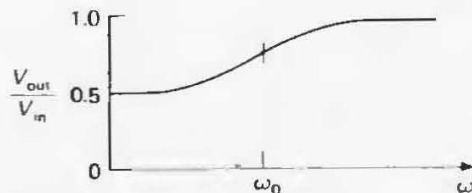

Figure 1.108
(5) How would you make a filter with  $R$ s and  $C$ s to give the response shown in Figure 1.108?